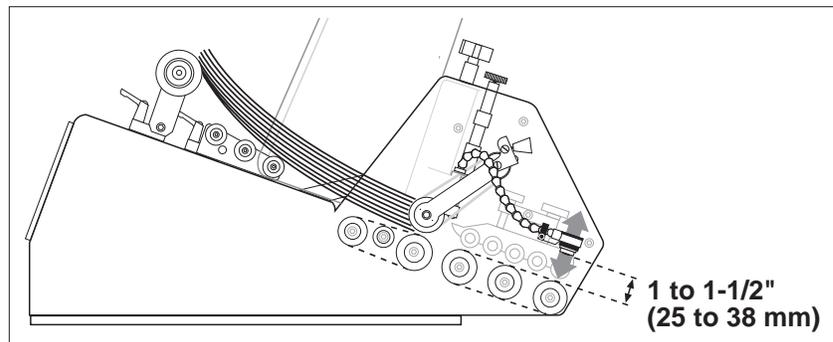

Figure 21. Adjusting Photo Sensor for Distance
2. Position the photo sensor at distance between 1 to 1-1/2 in. (25 to 38 mm) from the product. Initially use the adjustable arms on the extension assembly (Figure 21). When only the green LED is On, you will know when the photo sensor is positioned properly. The amber LED is On when product is staged.